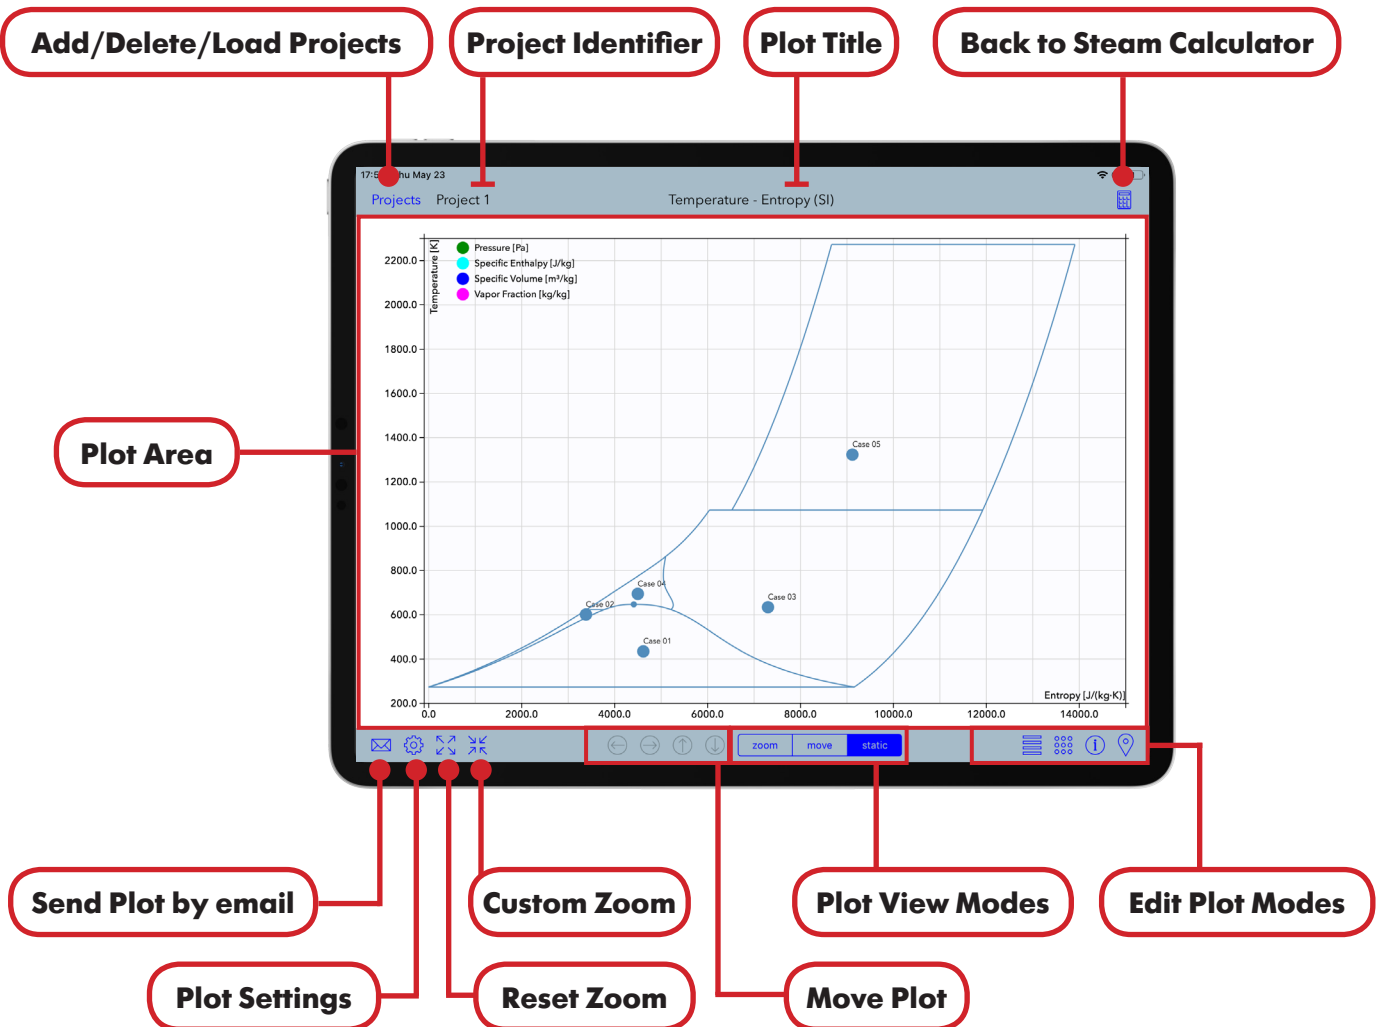

Figure 19. Plot diagram graphical user interface in **Steam Plot**.
**Steam Plot** allows to plot and interact with plot diagrams by calculating and adding isolines and calculations points to specific diagram types and saving these as projects both in SI and I-P units. Figure 19 shows the main interaction buttons in plot diagrams, and Figure 20 shows the main interaction buttons for elements.